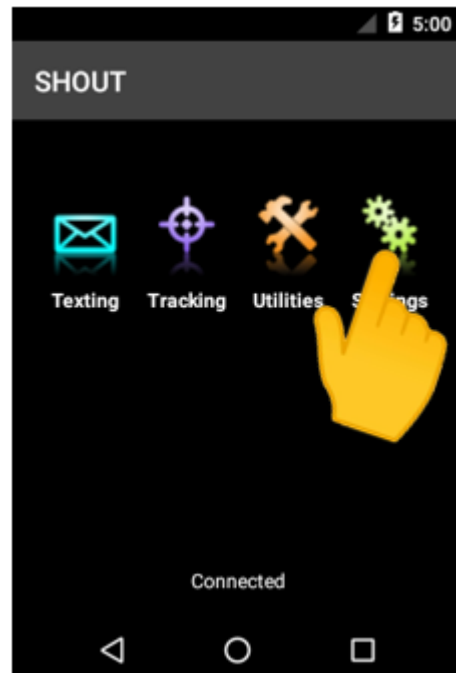

Figure 88: Tap Settings
17. Tap the **Settings** icon (see **Figure 88**).